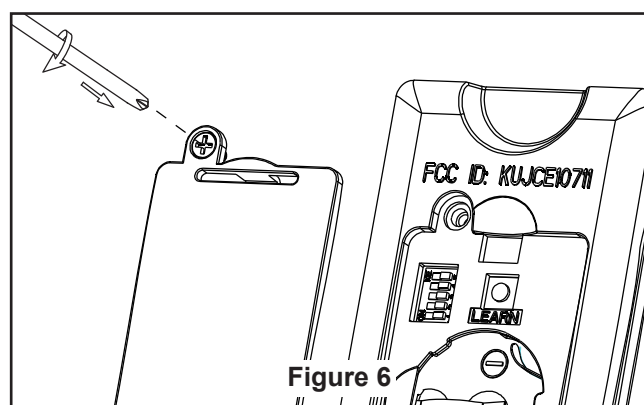

Figure 6
- ☐ 6. Replace battery cover on the remote control and secure with the previously removed screw. (Figure 6)